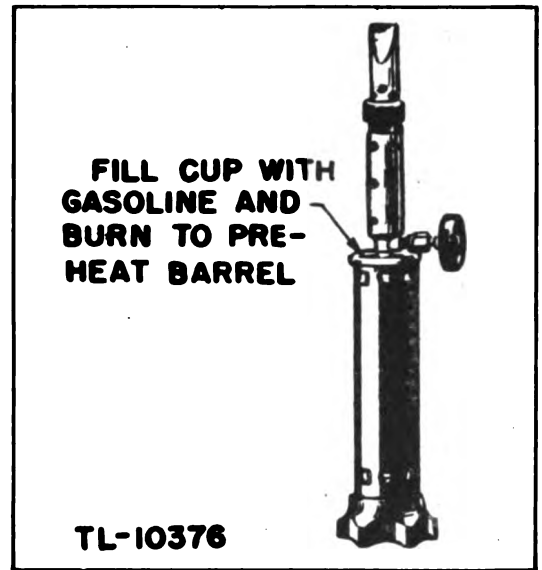

Figure 85
b. Stand the iron upright and fill priming cup (Fig. 85) about one-half full with denatured alcohol, gasoline, benzine or naphtha and ignite. Shield the iron from the wind, so that the flame